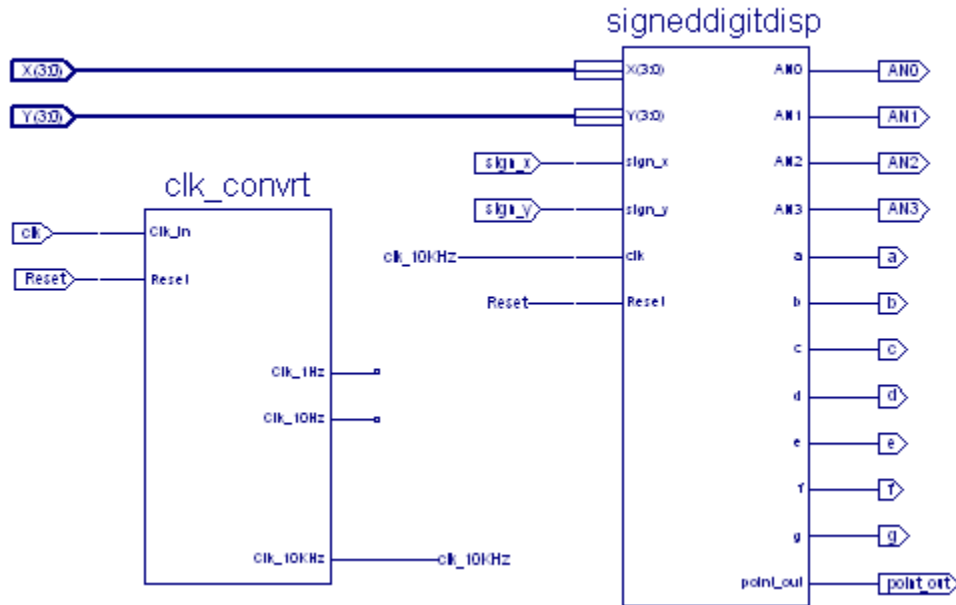

Figure 8
30. Create a new schematic file similar to Figure 8.